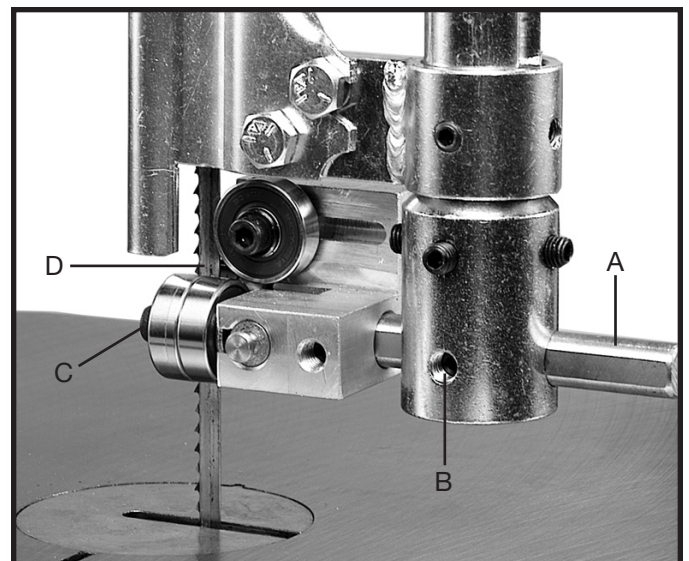

Fig. 25
2. The complete upper guide block assembly bracket (A) Fig. 25, can be moved in or out by loosening set screw (B) Fig. 25. The guides (C) Fig. 25, should then be adjusted so that the front edge of the guide roller bearings are just behind the “gullets” of the saw teeth (D) Fig. 25. Be careful not to pinch the blade.